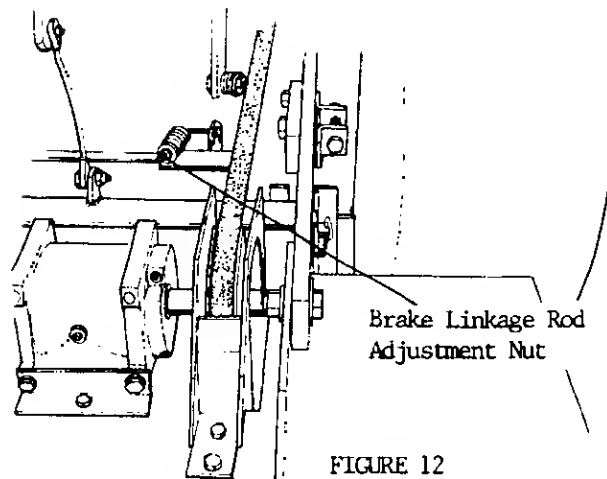

FIGURE 12
2. Shorten brake linkage rod by turning locknut clockwise (Fig. 12).